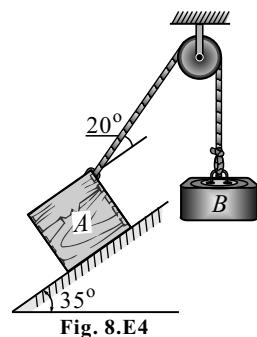

Fig. 8.E4
5. In Fig. 8.E5, the two blocks ($W_1 = 30 \text{ N}$ and $W_2 = 50 \text{ N}$) are placed on rough horizontal plane. Coefficient of friction between the block A and plane is 0.3 and that between block B and plane is 0.2. Find the minimum value of the force P to just move the system. Also find the tension in the string.